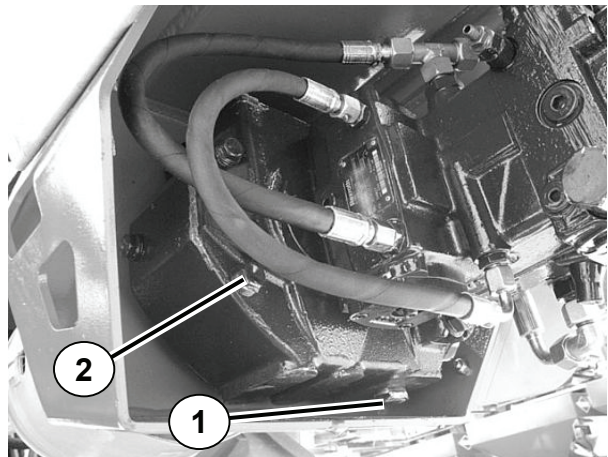

Fig. 51: Bleed gearbox oil
5. Open the filler screw and checking screw (Fig. 51: Pos. 2).
7. Close the filler and checking screw (Fig. 51: Pos. 2) again.